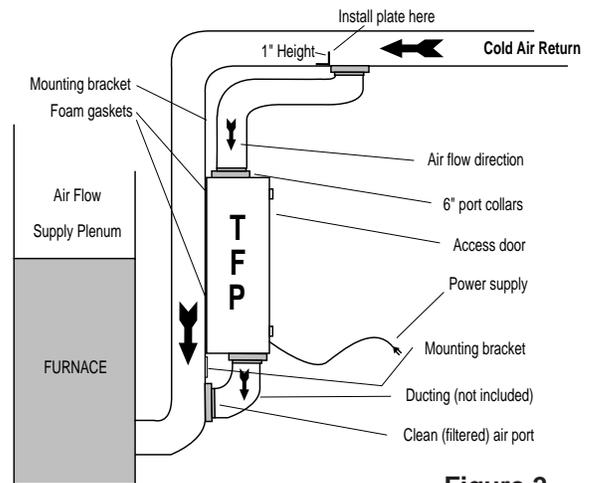

Figure 2
6. Install the (4) 8/32" X 3/4" mounting screws (provided) through the brackets and into position. Tighten and secure.
8. Cut 2 - 6" holes in the plenum. Install ducting to join TFP to the return air plenum (Fig. 2).